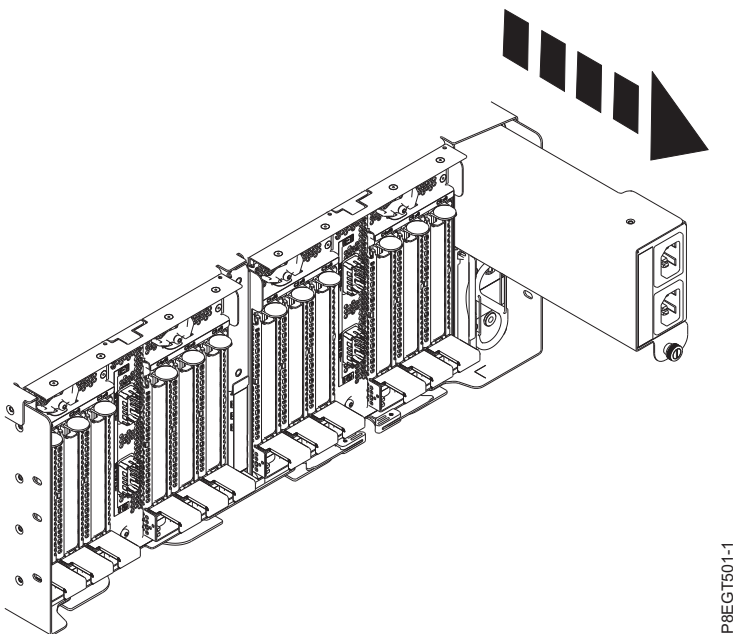

Figure 8. Removing the power supply conduit
- a. Pull the power supply conduit out from the rear of the EMX0 PCIe3 expansion drawer as shown in Figure 8. Apply slight force with your hand to the cable management bracket to allow the power supply conduit to slide past the bracket during removal.